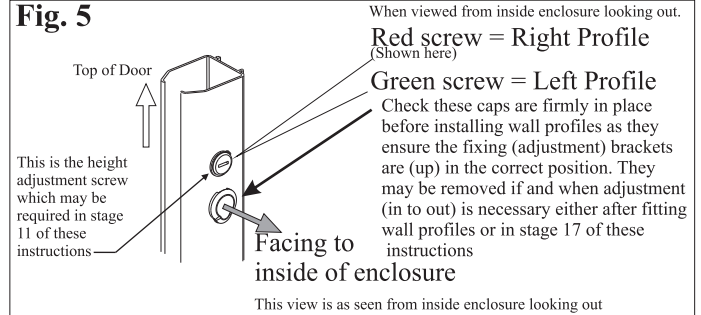

Fig. 5
- 5 FITTING THE WALL PROFILES,** Looking outward from inside of the enclosure, the left wall profile is identified by the green screw which should face the inside of the enclosure and be nearest to the top. Similarly the right wall profile shown here in Fig.5 is the one with the red screw which should face the inside of the enclosure and be nearest to the top.